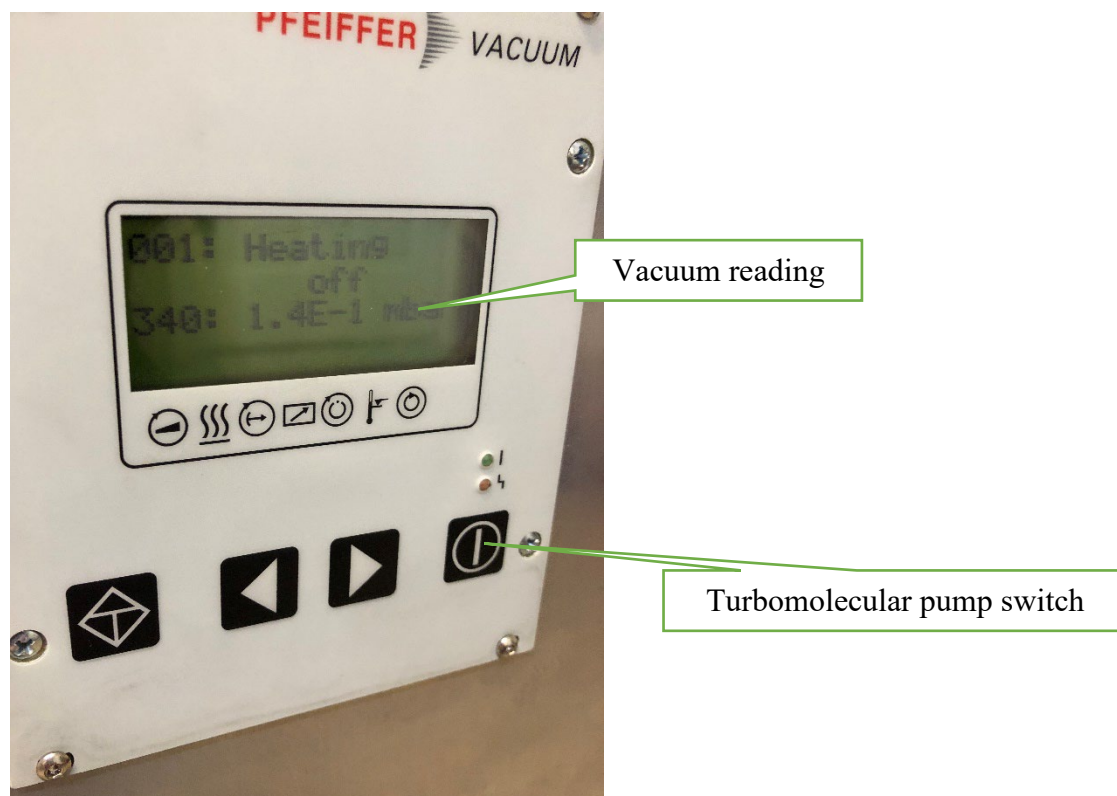

**Fig. 2.** Chamber lid and the view of the furnace interior.
3. Switch on VENT switch (toggle up). Once the chamber is filled with air (vent gas), switch off the VENT switch and open the chamber lid (Fig. 2). Examine the furnace interior for any visible damages. Use flashlight. Make sure that the container visually does not touch the surrounding filament (Fig. 2b). If damages are noticed, DO NOT switch heater. Contact High T Technologies.